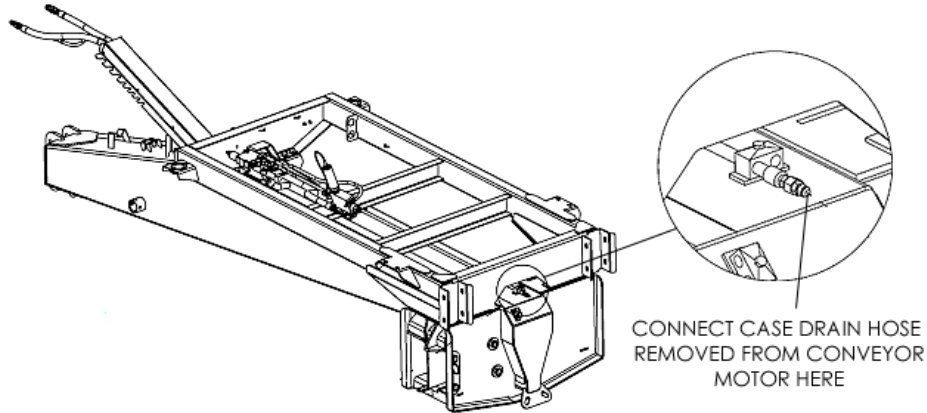

Figure 7 - Connect to Trailer
4. Connect newly removed case drain hose to trailer case drain hose (Figure 7). Refer to *Hydraulic Torques Chart* for torque requirements.